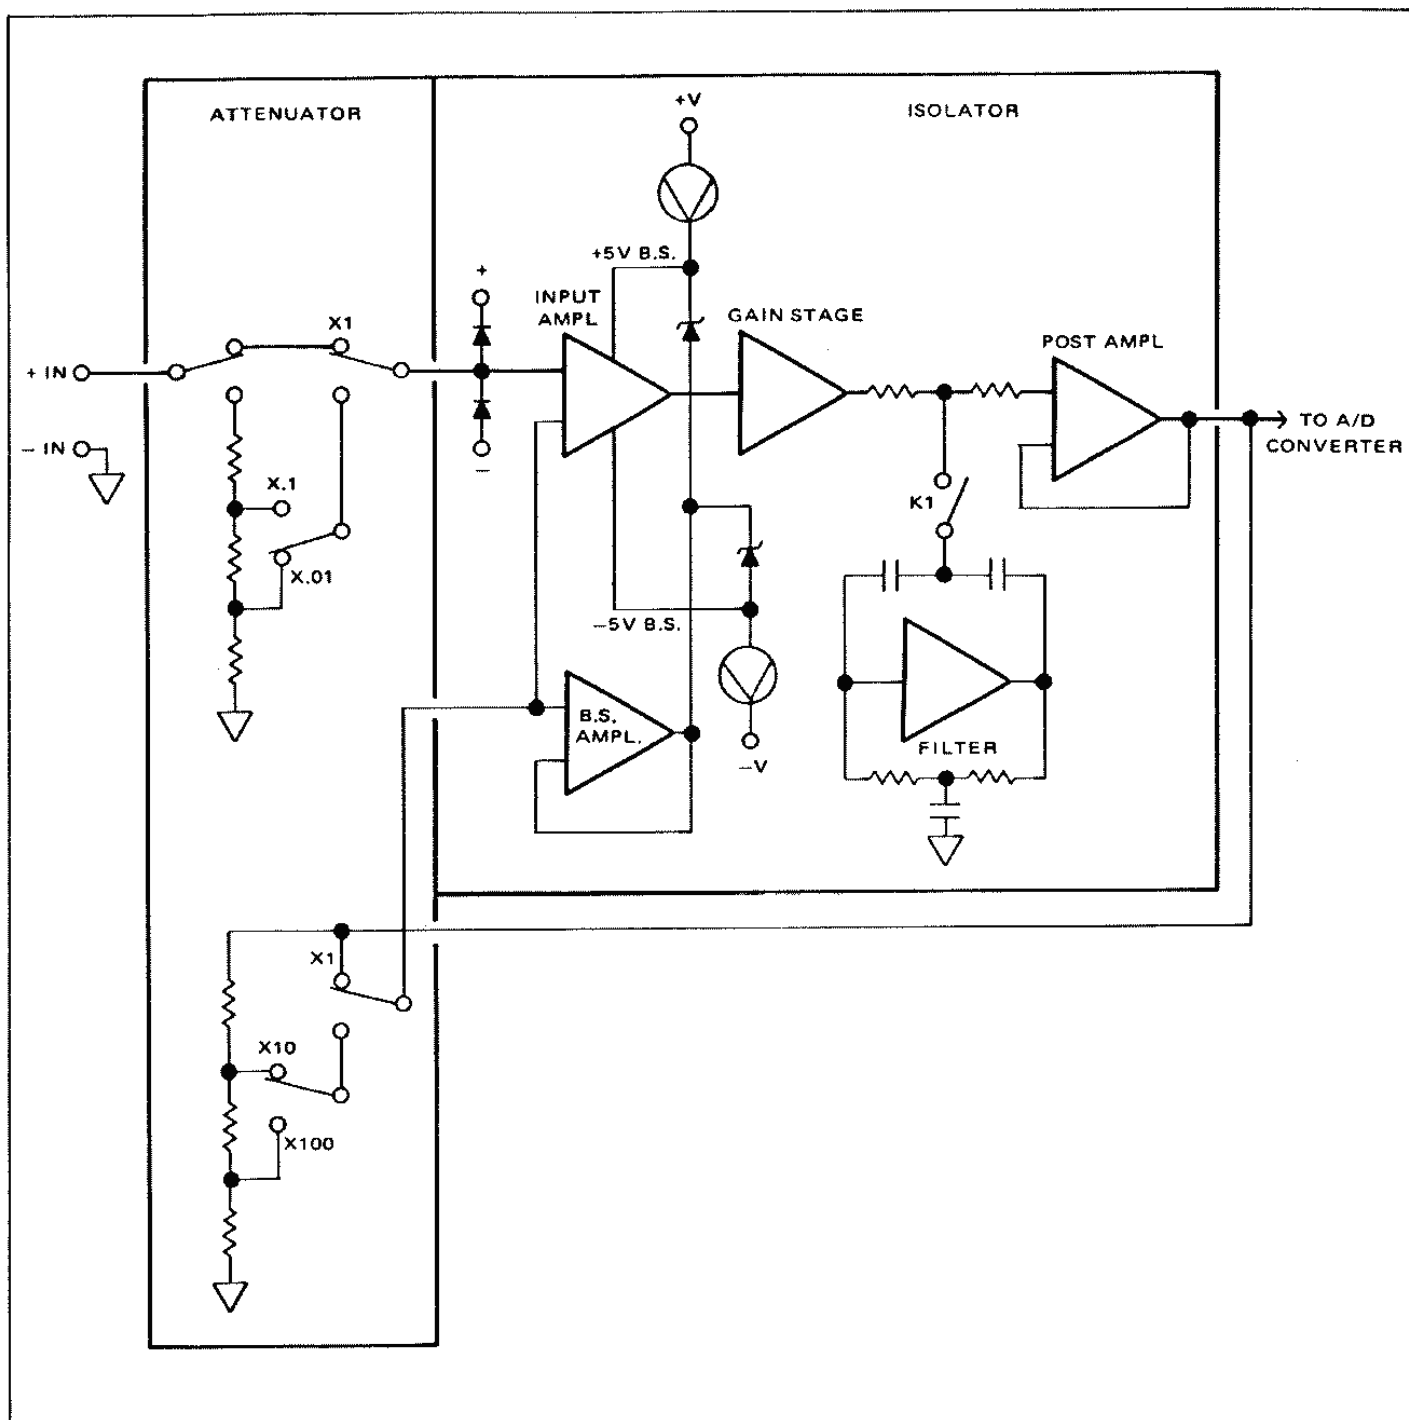

Figure 4.10 - Attenuator/Isolator DC
4.31 The Isolator is a single printed circuit board and occupies connector J8 on the Main Logic board. The Isolator consists of a high open-loop-gain amplifier, a bootstrap amplifier, and a 3-pole filter. The amplifier is used potentiometrically and operates in conjunction with the attenuator board as shown in figure 4.10.